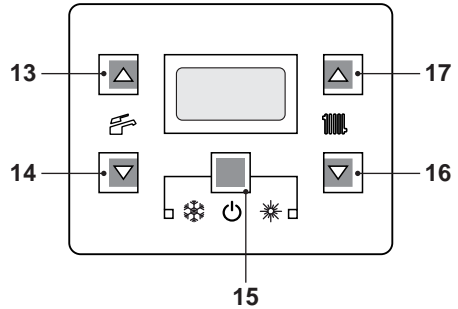
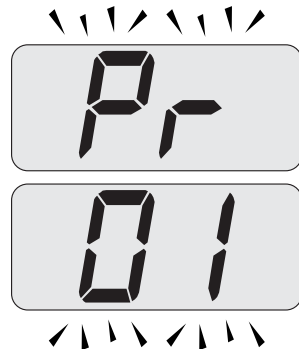
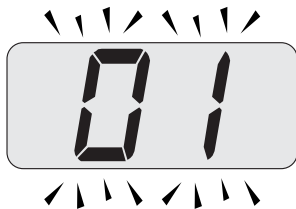

Fig. 7.46
Fig. 7.47
Fig. 7.48
- Enter the "programming mode" by pressing keys 15 - 16 - 17 (Fig. 7.46) for 10 seconds at the same time until the letters **Pr** that alternate with code **01** are displayed on the LCD display, indicating that "parameter 01"(Fig. 7.47) has been activated.
- Press keys 15 and 17 (Fig. 7.46) at the same time until the value of parameter 01 (01=Activ A 25C or 02=Activ A 30C or 03=Activ A 35C) is displayed on the LCD display (Fig. 7.48).
- Press keys 15 and 16 (Fig. 7.46) at the same time to exit without changing the value (return to the parameters list Fig. 7.47)
- Press keys 15 - 16 - 17 (Fig. 7.46) at the same time for 10 seconds to exit the "programming mode".